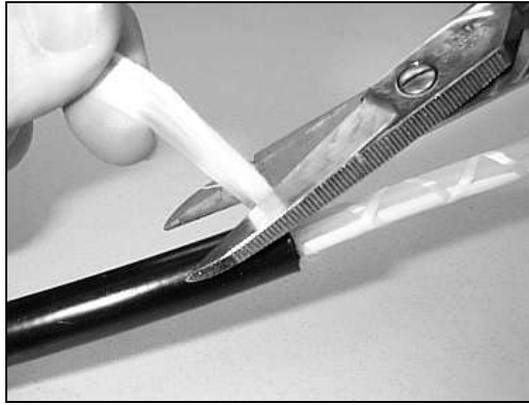

Figure 8 – Cut and remove the dielectric strength elements at the required length.
4.8 Consult the closure instructions for the length of dielectric strength elements that is required for strain relief. Separate the strength elements from the buffer tubes and cut them at the required length (Figure 8).